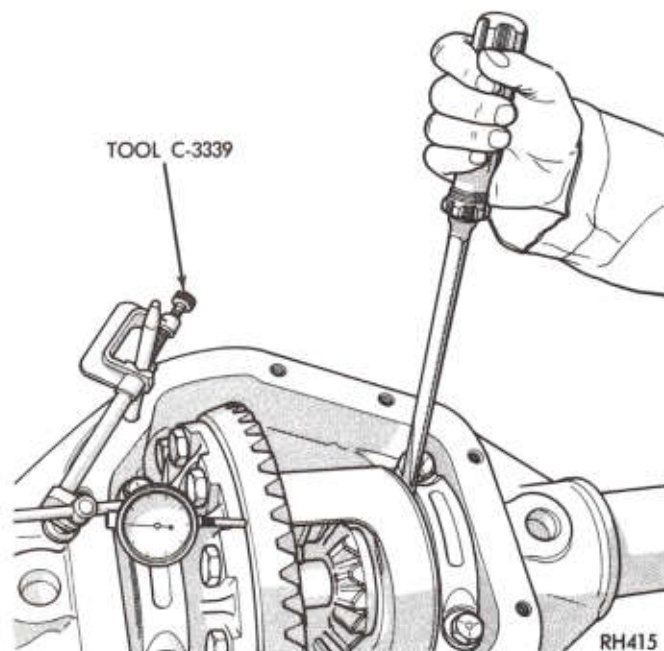

Fig. 11—Determining Shims to Obtain "0" End Clearance
(7) Place a screwdriver blade between bearing cup and housing and pry case assembly as far as possible to one side of housing. Set dial indicator at zero. Pry case to opposite side of housing and record the reading (Fig. 11).